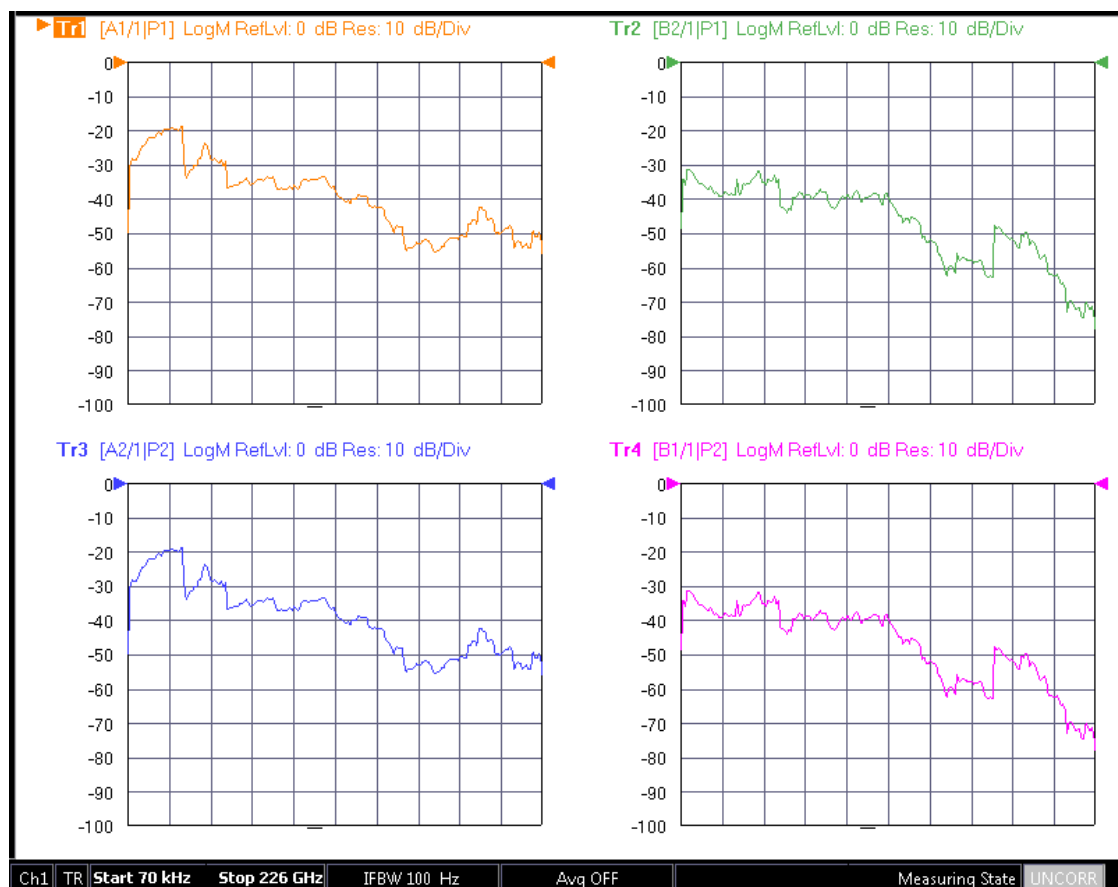

Figure 5-9. Typical VNA Four-Trace Display of Non-Ratioed Parameters for Initial Checkout
21. Connect the 33GG50 thru line between the MA25400A Modules, and ensure the resultant display looks similar to Figure 5-9. Variances in the absolute levels of up to 10 dB from those in the picture are normal.